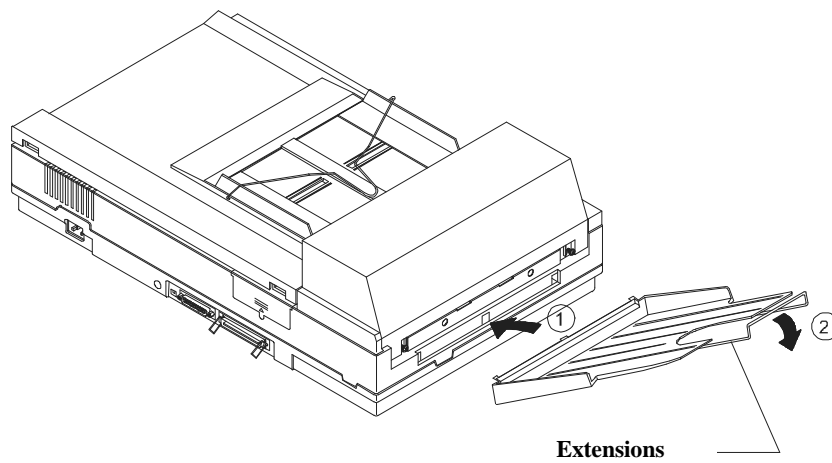

Figure 2-5 - Install the ADF Output Paper Rack
2.4 ADF Output Tray (Figure 2-5)
- i) Hold the output tray at an angle as shown in figure 2-5.
- ii) Insert the three protrusions on the paper output tray to the three slots on the ADF ①.
- iii) Lower the paper tray gently ②. Make sure the tray is firmly attached to the ADF.